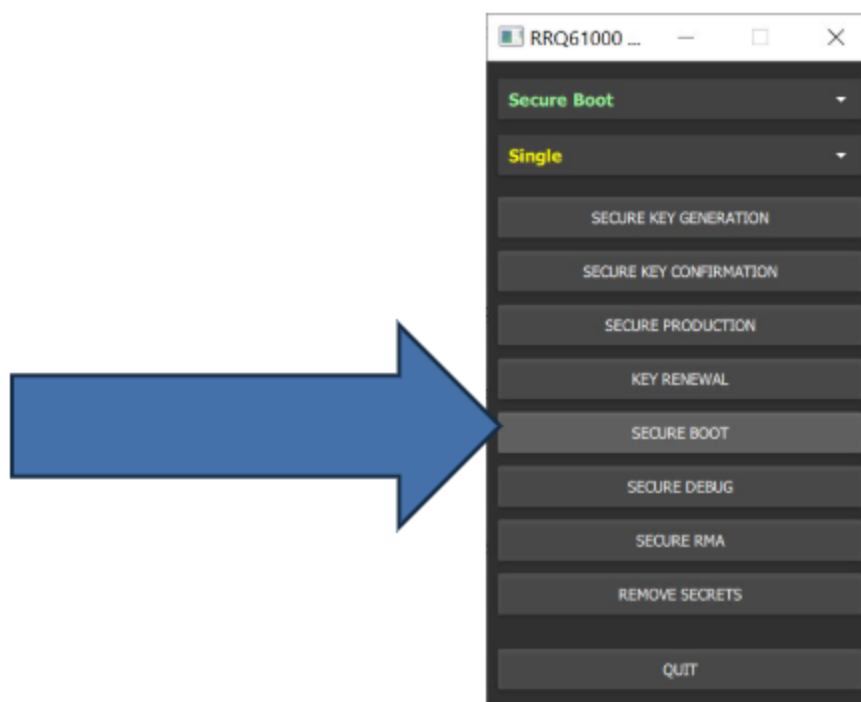

Figure 29. Secure Boot button
- In the SBOOT tool, click **Secure Boot** (Figure 29).